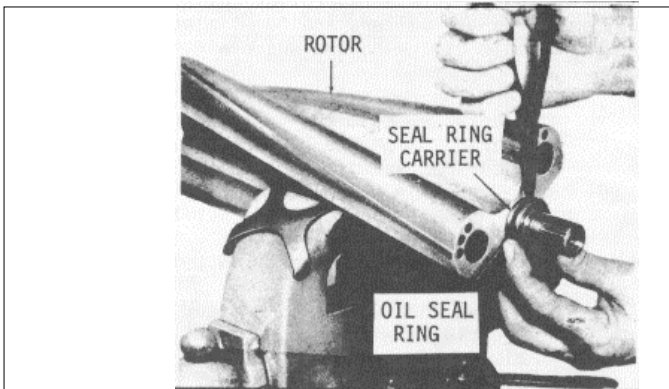

Fig. 5
- (7) Withdraw the blower rotors from the housing.
- (8) Remove the bearings and ring-type oil seals, carriers, roller bearing inner races and collars from the turbocharged engine blower rotor shafts and end plates as follows:
- (a) Clamp one lobe of the rotor in a bench vise equipped with soft jaws (Fig.5). Tighten the vise just enough to hold the rotor stationary.
- (b) Remove the oil seal ring from the seal ring carrier on each blower rotor shaft with a pair of snap ring pliers as shown in Fig.5.